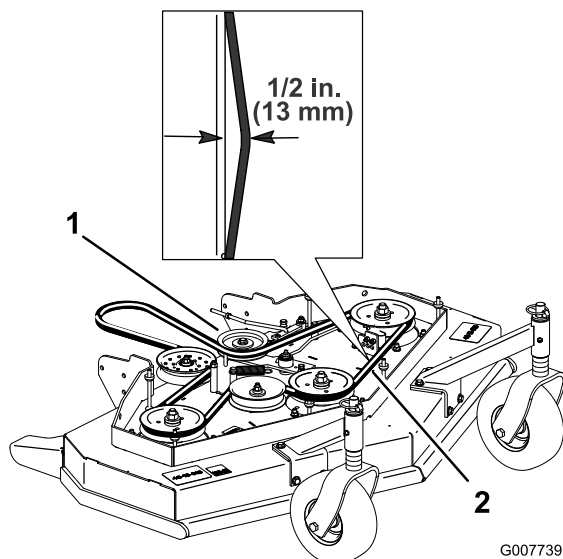

Figure 43
4. Remove the idler pulley and the worn belt (Figure 43).
Note: The proper mower belt tension is 10-15 lbf. (44-67 N) with the belt deflected 13 mm (1/2 inch) halfway between the pulleys (Figure 43).